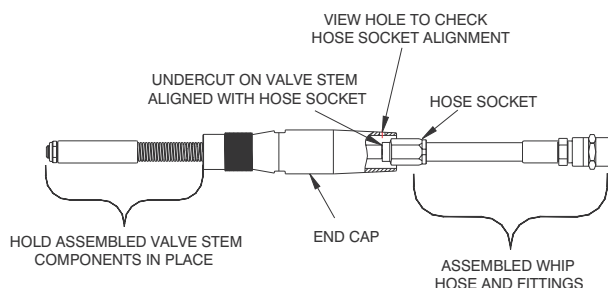

Figure 9-35. End Cap View Port.
10. For Hole-Hogs with 2650 and above, it may be necessary to view the Valve Stem undercut through the hole in the side of the End Cap. Refer to Figure 9-35.